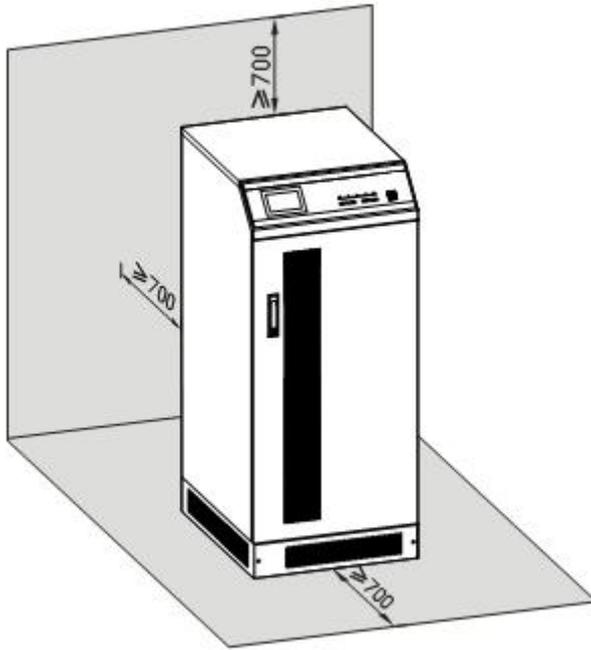

Figure3-2 Installation clearance
- Keep at least 700mm from the front panel and rear panel of the UPS to the wall or adjacent device for heat dissipation and maintenance. The minimum installation space of the UPS is as shown in Figure3-2. If allowable, it is suggested to keep larger space to ensure the UPS working stably and efficiently.
- When the UPS is used in parallel system, the whole space after paralleled should meet the space requirement in Figure3-2.